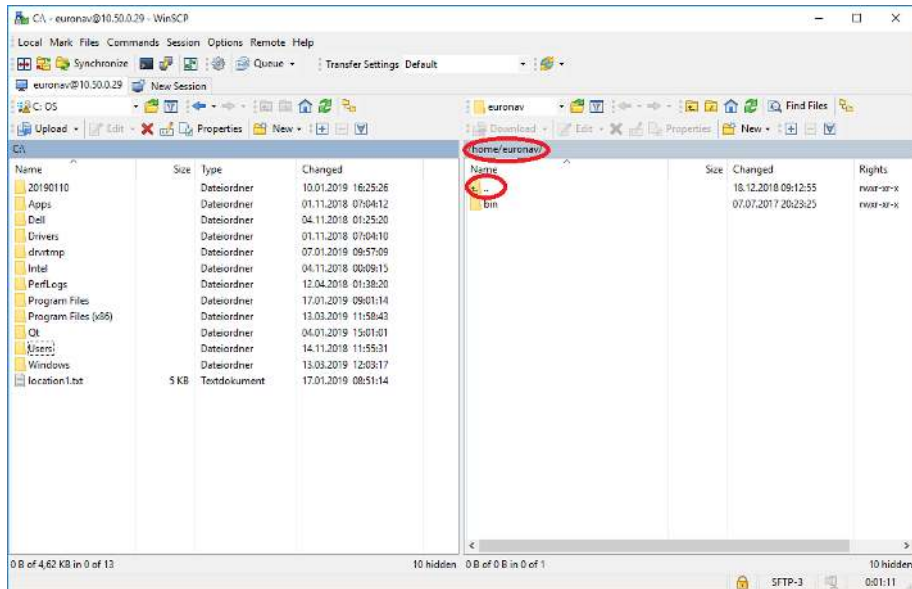

Figure 17: WinSCP connection
2. By default, the connection is established in the “/home/euronav/” folder. To access the sensor data, go up two levels by clicking on “...” (see Fig. 17).